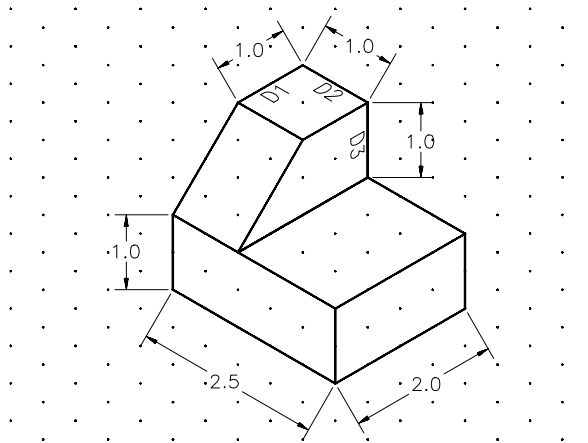

Figure 21-15 Dimensioning an isometric drawing, before obliquing
1. Dimension the drawing of Example 1 as shown in Figure 21-15. You can use the aligned or linear dimensions to dimension the drawing. Remember that when you select the points, you must use the Intersection or Endpoint object snap to snap the endpoints of the object you are dimensioning. AutoCAD automatically leaves a gap between the object line and the extension line as specified by the **DIMGAP** variable.